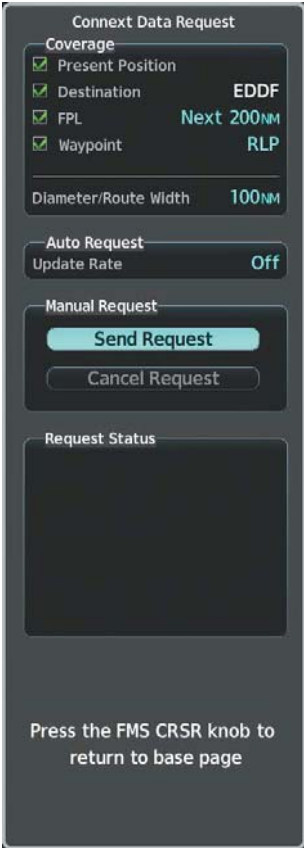

Figure 6-8 Connext Data Request Window
- 4) Turn the large **FMS** Knob to highlight the desired coverage option(s) and press the **ENT** Key to show or hide a green check mark to select one or more of the following coverage selections (Figures 6-8, 6-9):